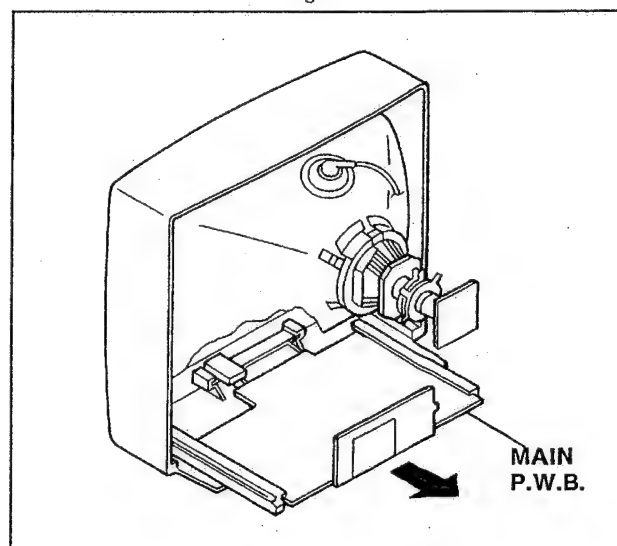

Fig. 2
1. Withdraw the MAIN PW board backward along the rail.(Fig. 2)